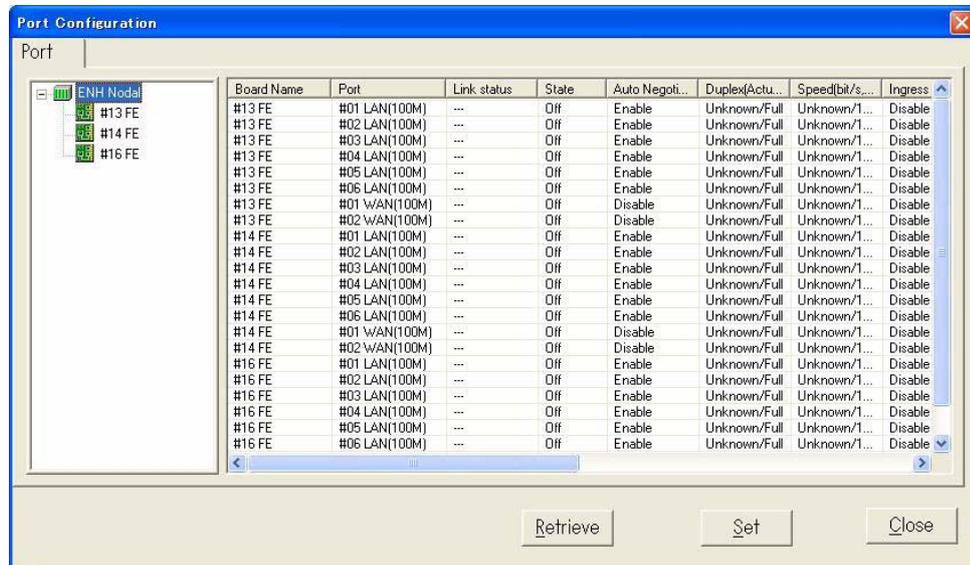

Fig. 4-4-35 Ethernet Port Configuration Dialog Box
- 3 Select **LAN-Interface** from the **Ethernet Port Configuration** menu to open the **Ethernet Port Configuration** dialog box. The Ethernet Port Configuration dialog box shown in *Fig. 4-4-35* appears: